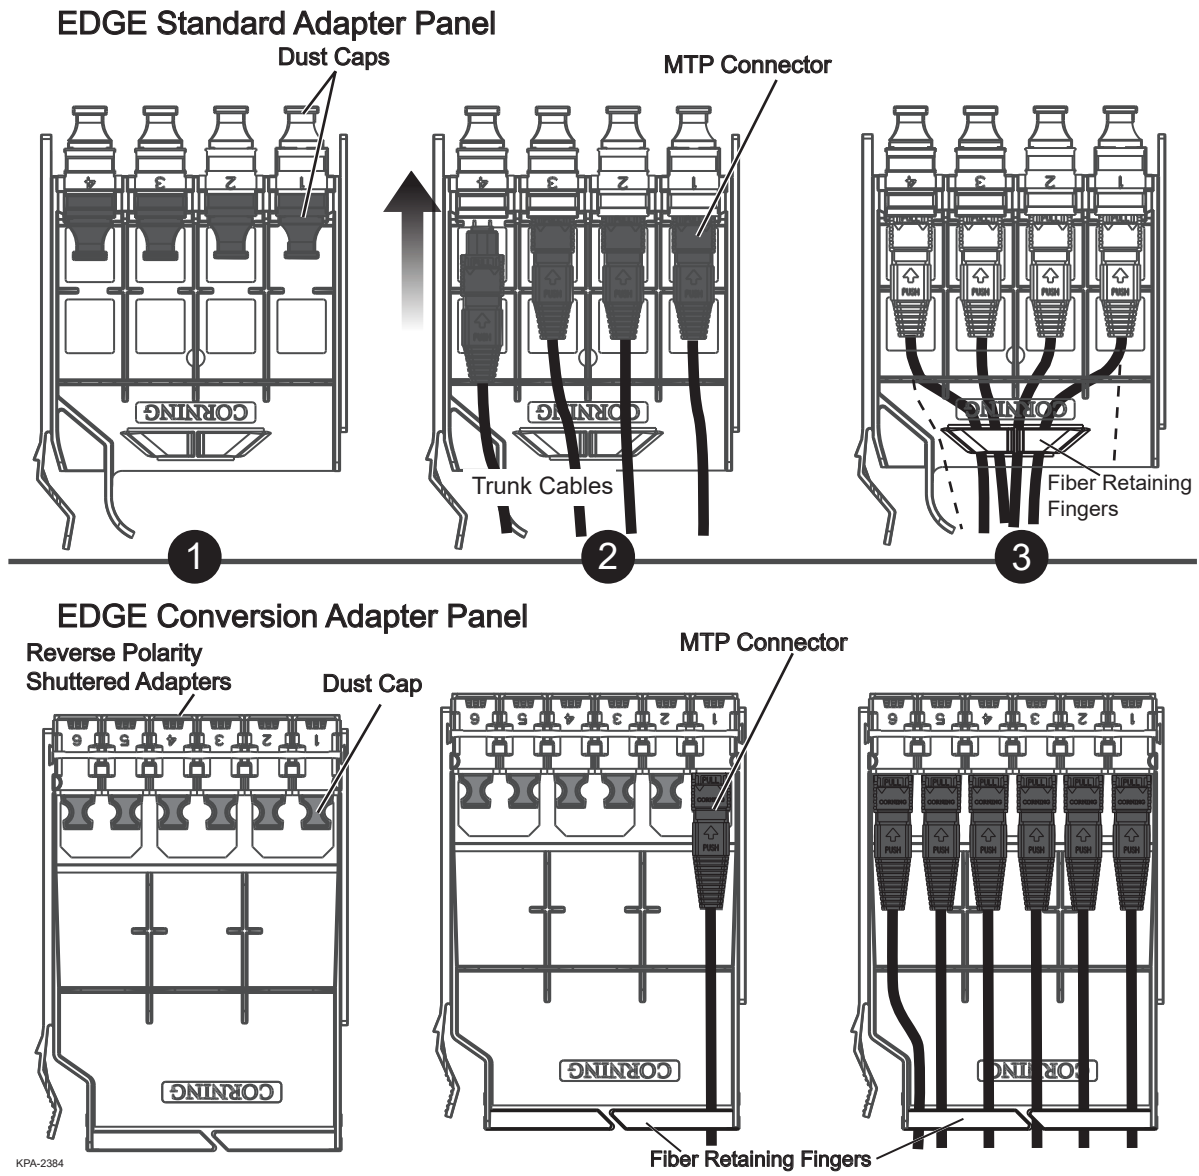

Figure 21 — Install MTP Trunk Cables into Adapter Panel.
**Step 2:** Mate the MTP connector(s) into the rear of the adapter(s) (Figure 21).